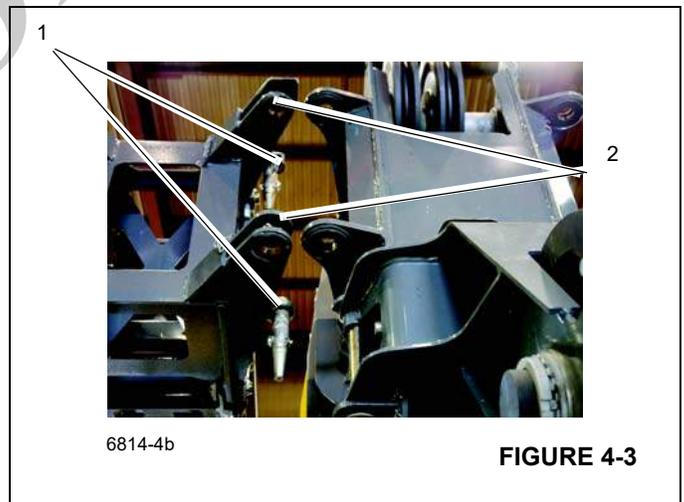

**FIGURE 4-2**
**NOTE:** A Tag line (Figure 4-2) used in these procedures is to control the movement of the boom extension.
1. Attach a length of rope (tag line) to the boom extension tip, as shown in Figure 4-2, to aid in swinging the boom extension into place ahead of the boom nose.
- Slightly raise and/or lower the boom to help control the boom extension. Using the tag line (Figure 4-2) attached to the tip of the boom extension, manually swing the extension into place ahead of the boom nose.